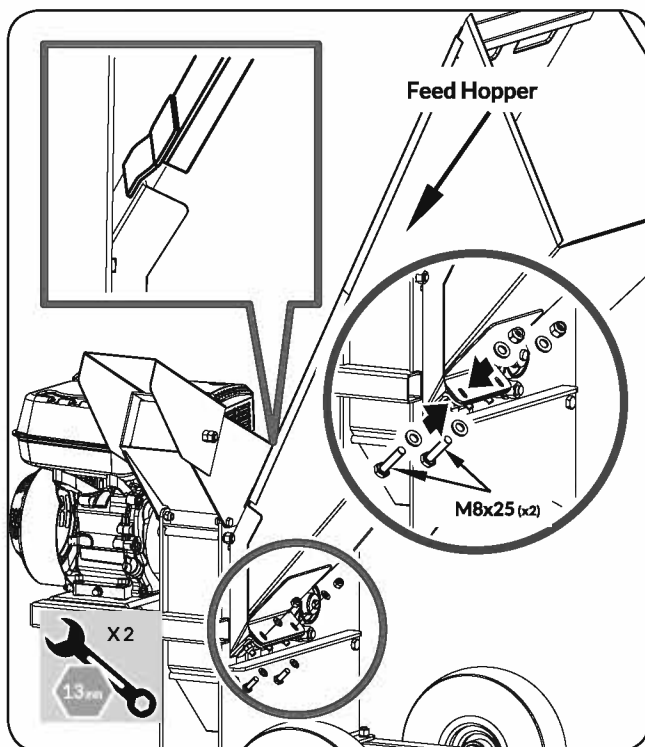

Figure 7
5. Place the feed hopper onto the machine. Make sure the lip on the hopper goes over the chute housing on the main machine. Tighten the feed hopper on the unit with M8x25 bolts, washers and nuts. (See **Figure 7**)